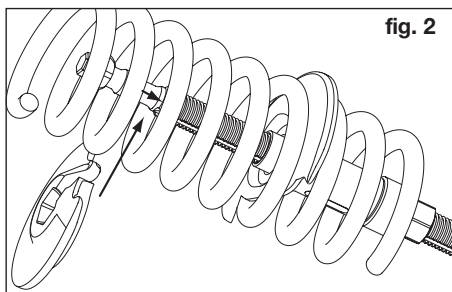

fig. 2
- Push upper tensioning jaw **4** onto the spindle (**figure 2**).